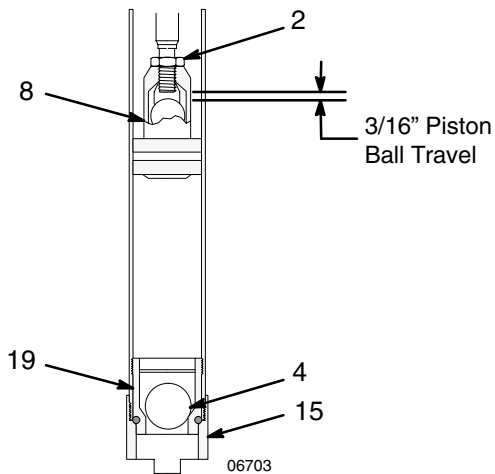

Fig. 5
To change the piston ball travel, loosen the locknut (2). Turn the piston body (8) counterclockwise to increase and clockwise to decrease. Medium viscosity fluids should have a 3/16 in (5 mm) ball travel. See Fig. 5. Decreasing the ball travel minimizes surging at stroke changeover, but too short a ball travel restricts the flow and slows down the pump.